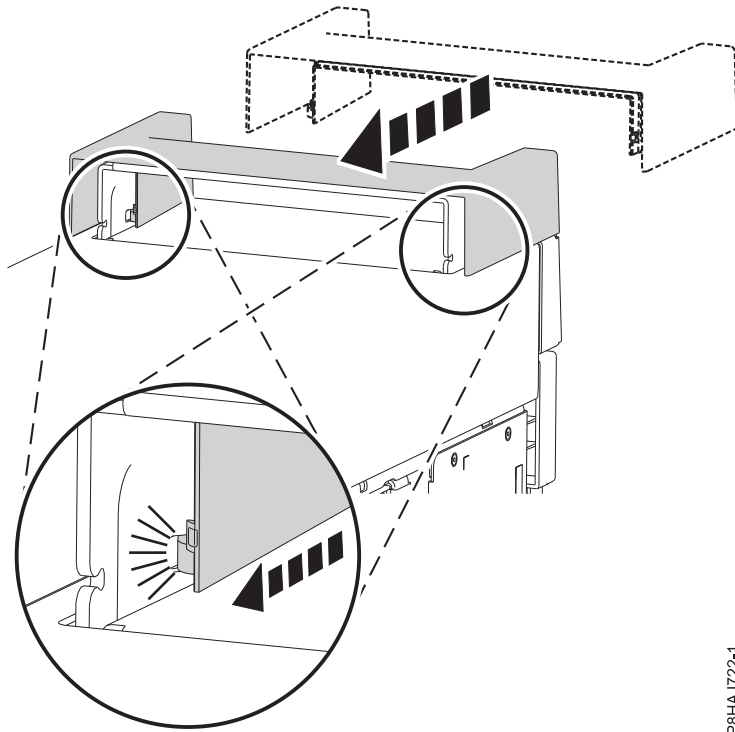

Figure 19. Securing the handle cover in an 8286-41A stand-alone system
1. Secure the handle cover to the internal RDX docking station (FC EUA3) by sliding it toward the rear of the system. See Figure 19.